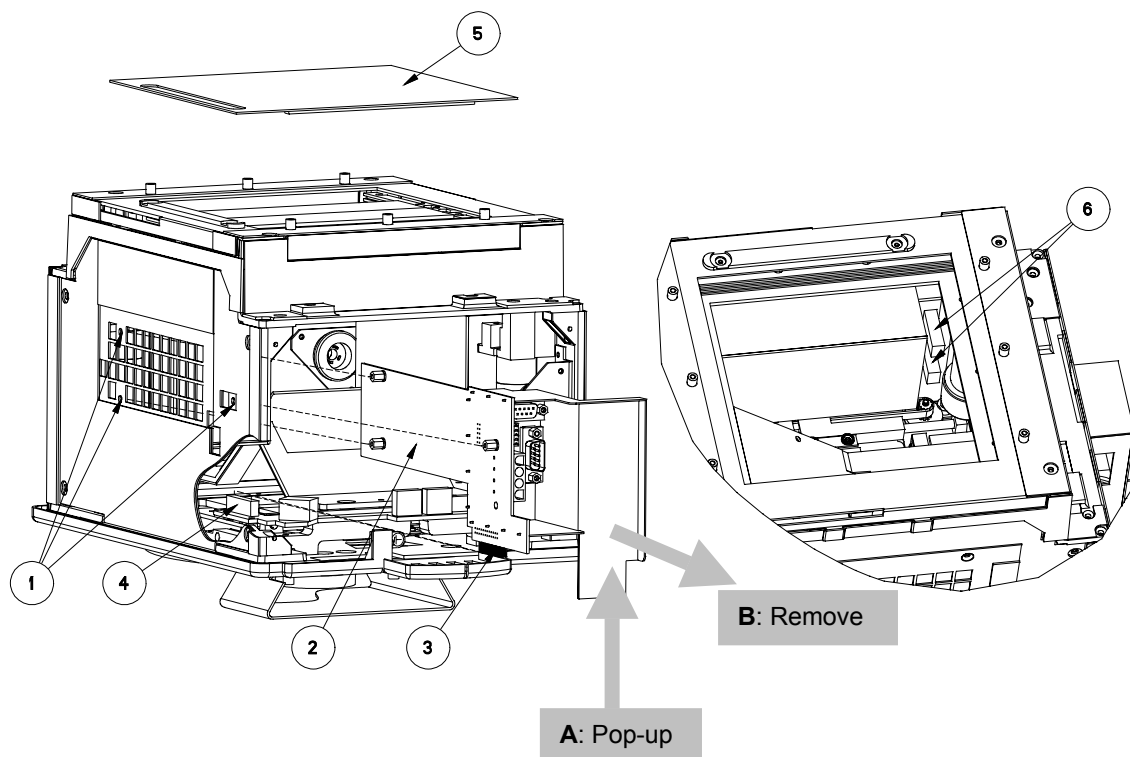

Figure 12: Replace LA2 PSC_CAN
2. Remove the field indication plate, item 5, Figure 12
4. Remove connectors/fastons LA2X5 and LA2X6, see item 6, Figure 12.
5. Remove the 3 screws and washers (items 1, Figure 12).
6. **A:** Pop up the board LA2 (item 2) gently and
7. Re-assemble in reverse order. Be sure that the board connector (item 3) is positioned exactly in the correct position onto the backpanel connector (item 4).
8. Check correct positioning of the connectors LA2X3 / LA1X1, observe via 2 holes in the long side of the BLD (near item 4) and perpendicular to the connector via the short side of the BLD!
9. Check whether connectors/fastons LA2X5 and LA2X6, see item 6, Figure 12, are connected correctly.